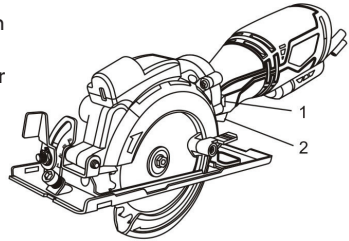

Fig. 8
The lock-off button (1) is a safety device designed to reduce the possibility of accidentally starting the saw (Fig. 8). This button must be depressed before the trigger switch (2) can be depressed.